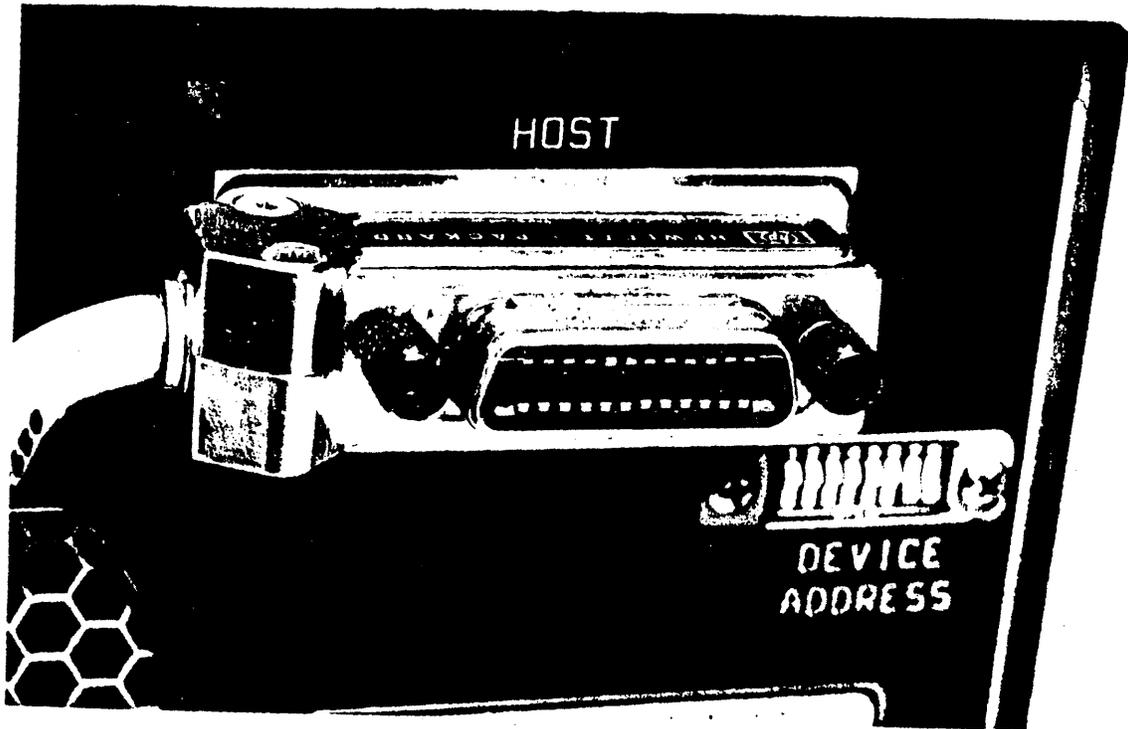

FIGURE 2-4 CONNECTING HP-IB
3. Refer to Figure 2-4 and plug the connector of the HP-IB Interface Module into the mating HP-IB connector at the rear of the disc drive.